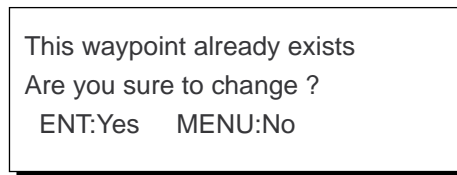

Figure 5-7
- ① Press [WPT RTE] and [6] to display the route list.
- ② Press ▲ or ▼ to select route number entered.
- ③ Press ▶.
- ④ Enter waypoint number, in three digits.
- ⑤ Press ▼. If the waypoint number already exists the message shown in Figure 5-7 appears.